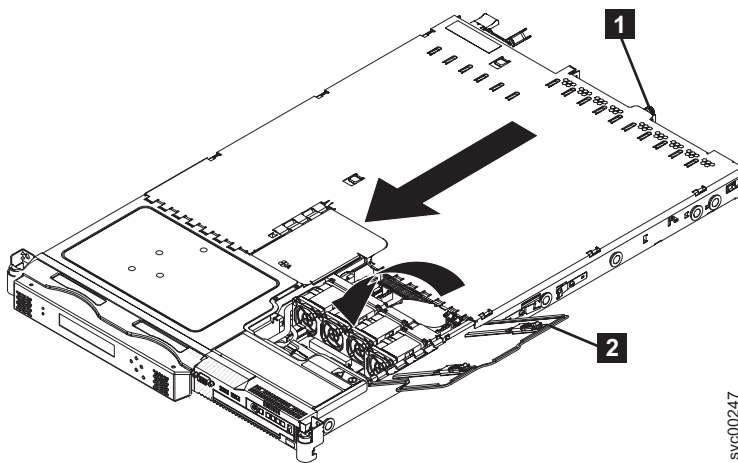

Figure 69. SAN Volume Controller 2145-8G4 with the fan door open
3. Tighten the thumbscrew **1**, which is shown in Figure 69, until the cover correctly engages all the inset tabs on the SAN Volume Controller 2145-8G4.